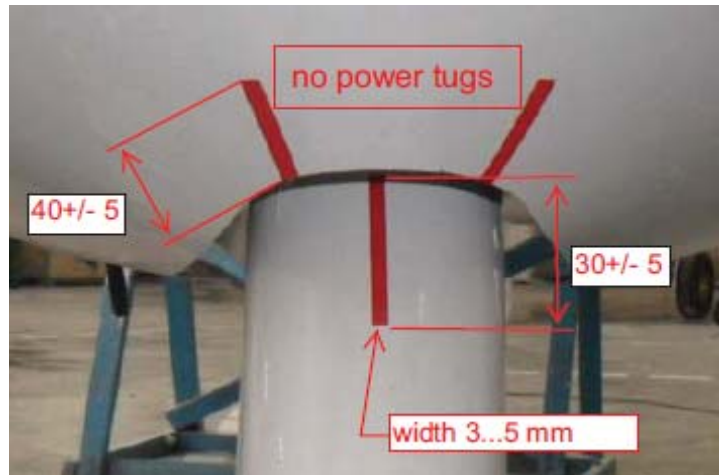

Fig 1.
Prepare three pieces of red film, in accordance with Fig 1.
5. Install the “No Power Tugs” sticker as shown on Fig 1.